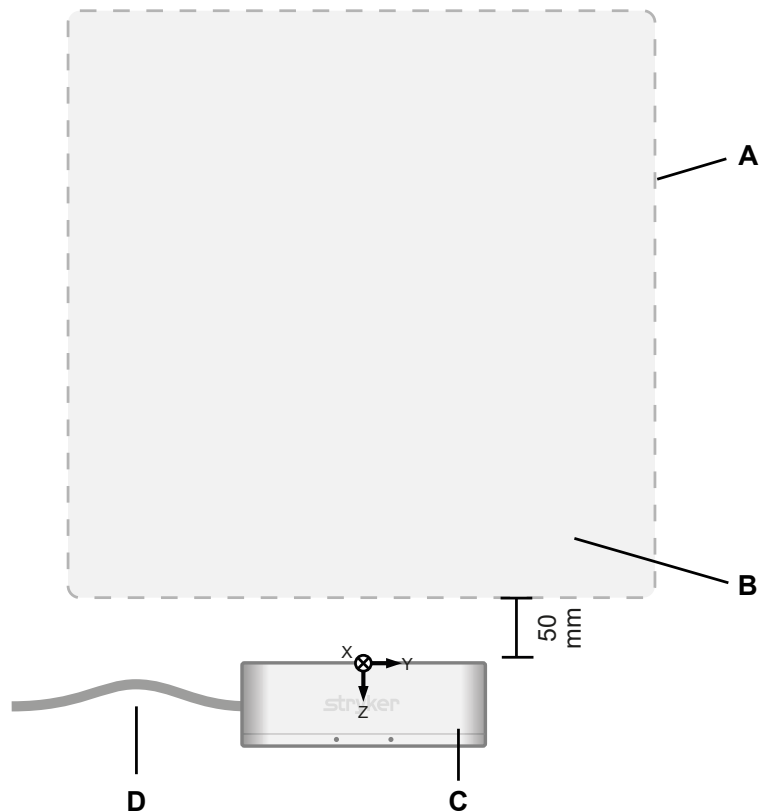

Figure 2 – Positioning of the Field Generator (Top View)
5. Position the Field Generator Mounting Arm so that the distance between the Field Generator and the operating area of the patient is 50 mm. Refer to Figure 2.